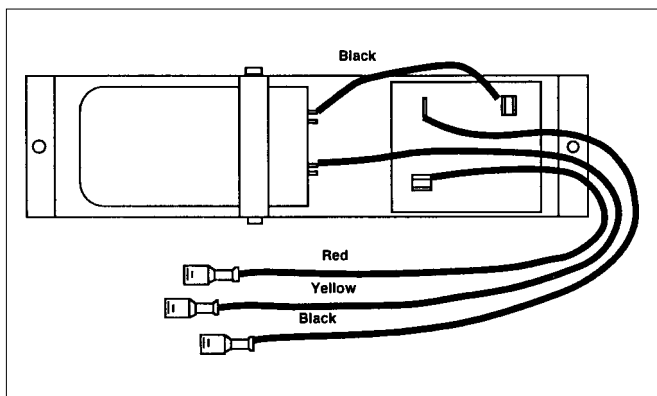

Figure 1
For Single Package Gas/Electric Models, use the horizontal bracket as shown in Figure 1.
5. Attach the kit to the designated location in the control panel with the screws provided. For split system units mount capacitor and relay at the designated locations inside the control panel. The orientation of the relay and capacitor will be as shown in Figure 1.